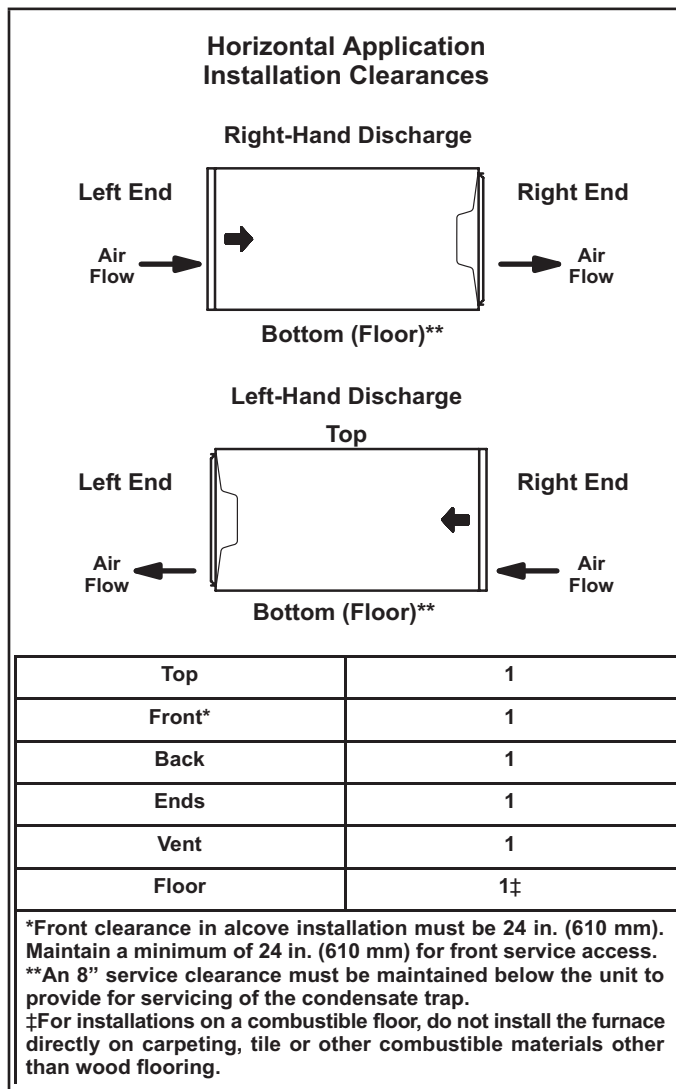

FIGURE 17
The EL195UHNEK furnace can be installed in horizontal applications with either right- or left-hand air discharge. Refer to FIGURE 17 for clearances in horizontal applications
- 1 - Select location for unit keeping in mind service and other necessary clearances. See FIGURE 17.